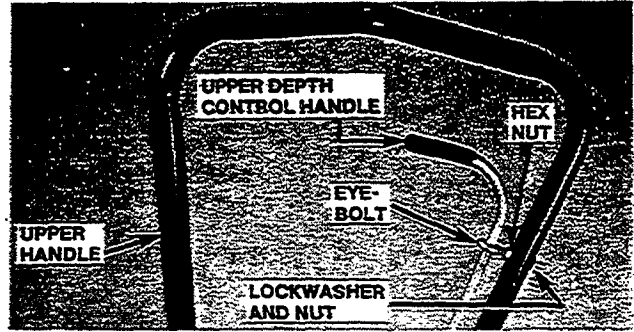

Figure 3
2. Insert curved end of upper depth control rod through eyebolt (See Figure 3).